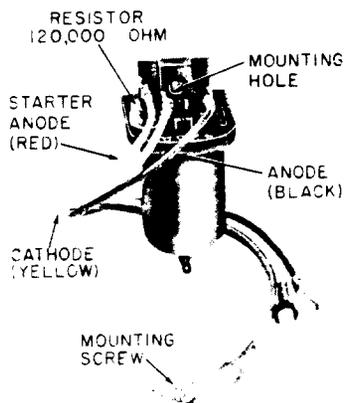
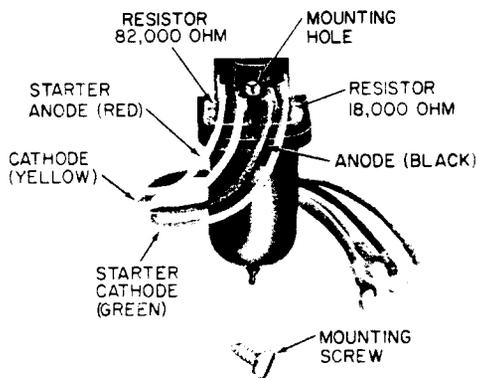
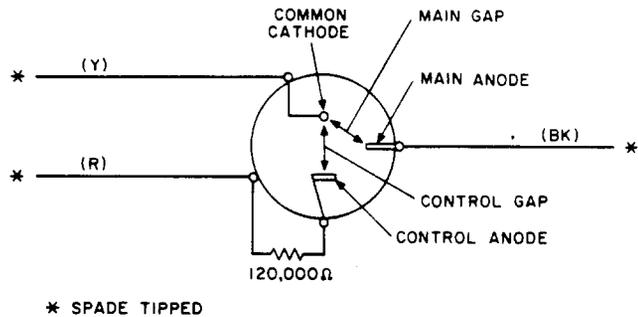
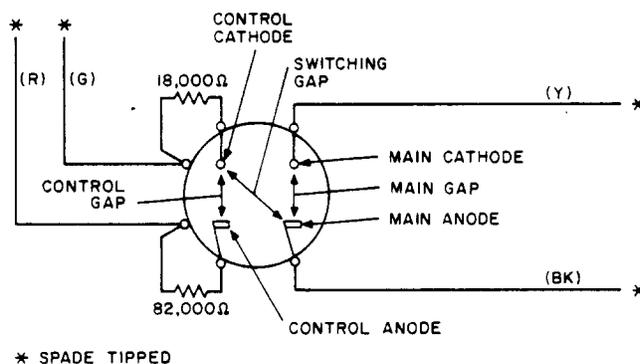

Fig. 1—426A Electron Tube
Fig. 2—425A Electron Tube
Fig. 3—Three Element Tube, Schematic
Fig. 4—Four Element Tube, Schematic
2.01 The 426A (Fig. 1) and 425A (Fig. 2) tubes are permanently mounted on plastic angle brackets with a No. 6 self-tapping screw provided for mounting the bracket. Spade-tipped conductors, approximately 6 inches long are provided for connection to other apparatus.
2.04 The 426A electron tube (Fig. 1) is a 3-element, inert gas-filled, cold-cathode tube with three spade tip conductors; red, yellow, and black. A 120,000-ohm resistor mounted on the base is included in the control anode (red) lead (Fig. 3).
2.10 The 425A electron tube (Fig. 2) is a 4-element inert gas-filled, cold-cathode tube with four spade tip conductors: red, green, yellow, and black. An 18,000-ohm resistor is in series with the control cathode and the green lead. An 82,000 ohm resistor, to limit current flow, is in series with the control anode and the red lead (Fig. 4).